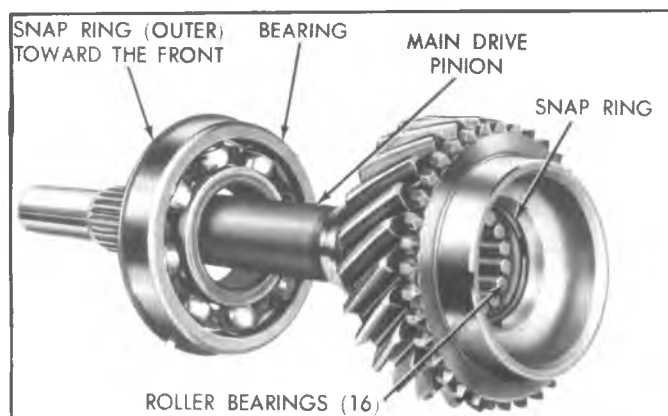

Fig. 18R--Drive Pinion and Bearing Assembly
1. Press drive gear bearing on drive gear seating bearing fully against shoulder on gear. Be sure outer snap ring groove is toward the front. Refer to Fig. 18R.